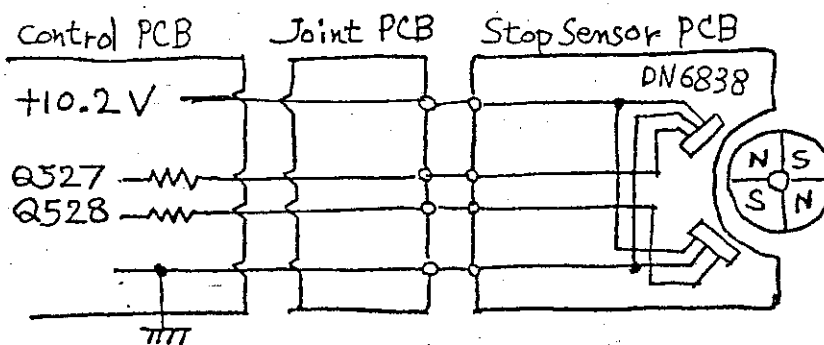
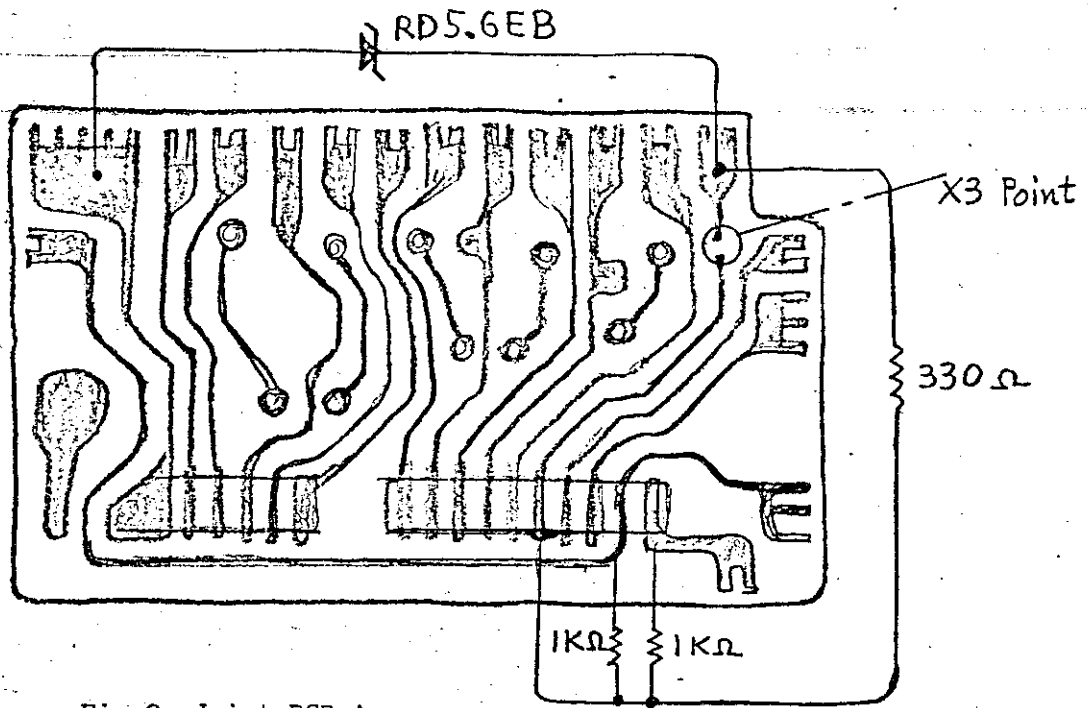
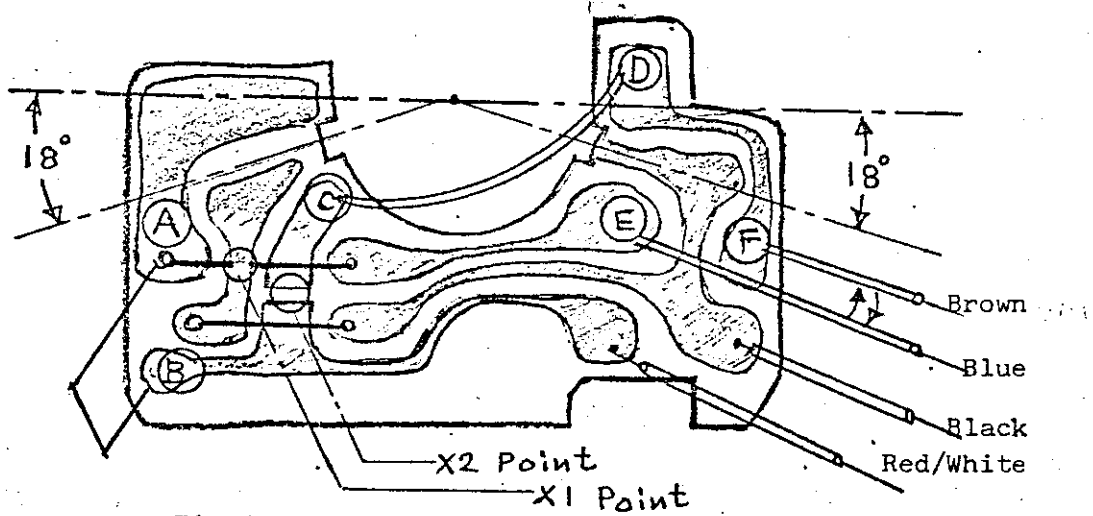

Fig 1
Fig 3 Joint PCB Assy
Fig 4
To improve the reliability of A-770 Cassette auto stop function, the circuits on PCB Assy Stop Sensor and Joint PCB Assy have been changed on the products serial numbered 21531 and after. In Fig 1 and Fig 2 are the diagrams of these former and new circuits. The former circuit can be changed into new circuit by making several modifications on the two PCB Assys as shown in Fig 3 and Fig 4.
- 1.6 Remove old Hole IC DN6838 (Parts No 52287001) from PCB, and mount new Hole IC TL170C (Parts No 52287001). On mounting this IC, care should be taken to keep the 18° angle as shown in Fig 4, as well as to face the flat side of IC against magnet rotor.
- 2.2 Connect three resistors and one zenner diode RD5.6EB on the foil side of PCB as shown in Fig 3.